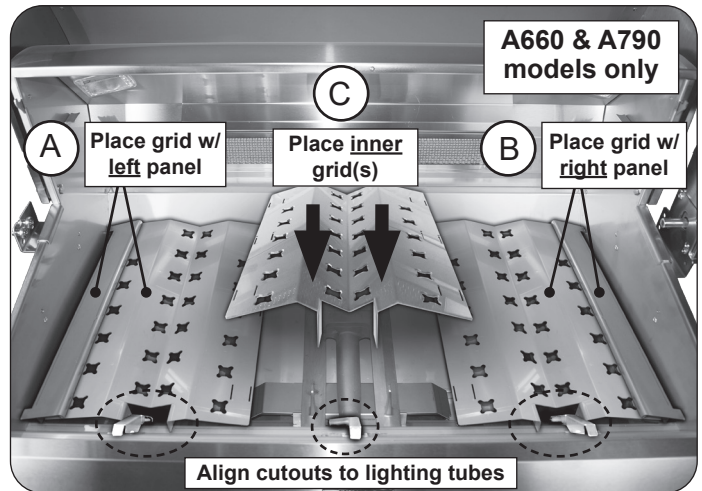

Fig. 30-2 Install flavor grids
1. Locate the flavor grid with the pre-attached **left panel** (see Fig. 30-2, A).
2. Carefully rest the grid onto the rear and front flavor grid rests while ensuring the flavor grid cutout clears the left-most lighting tube. See Fig. 30-2, A.
3. Locate the flavor grid with the pre-attached **right panel** and place it on the right side of the grill (see Fig. 30-2, B).
4. Take the inner grid(s) and install between the left and right flavor grids (see Fig. 30-2, C).